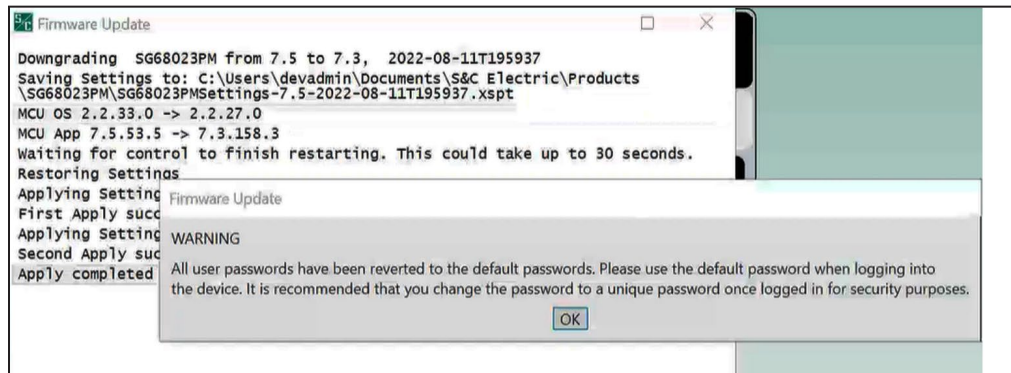

Figure 38. The message that appears after reverting passwords to defaults after a downgrade process completes.
STEP 20. When downgrading from software version 7.3.100 or later to software version 7.3.x or earlier, a dialog box will appear about the passwords being reverted to defaults after the downgrade process completes. Click on the **OK** button to proceed. See Figure 38.